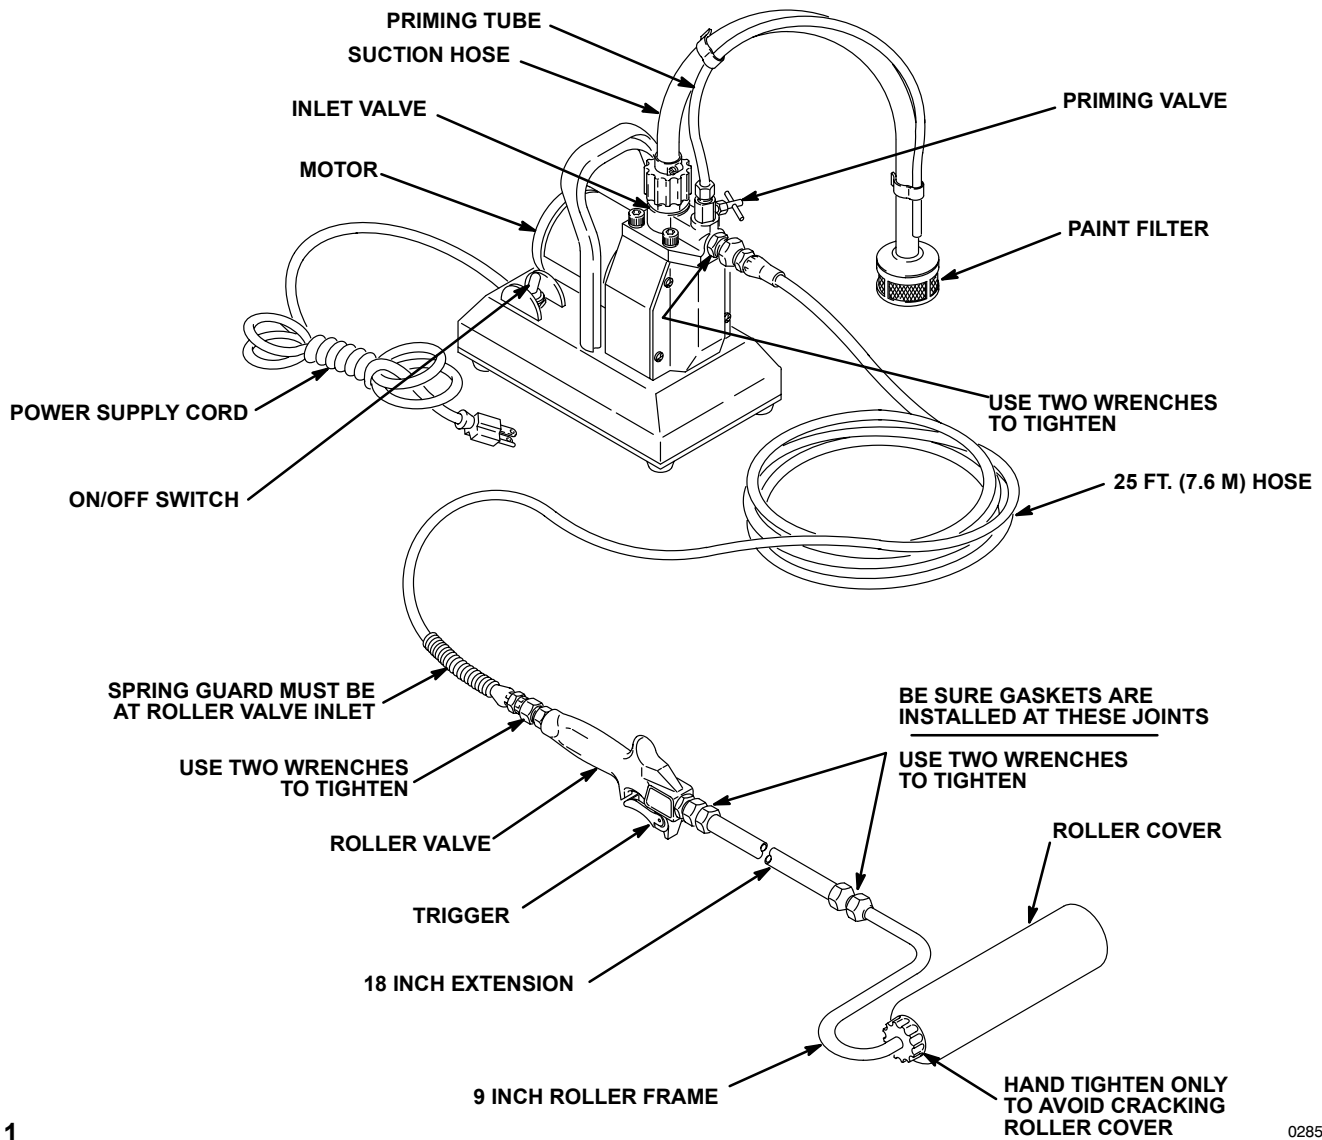

Fig 1
1. Remove all parts from the boxes and assemble them as shown in Fig 1, following the notes on the drawing.